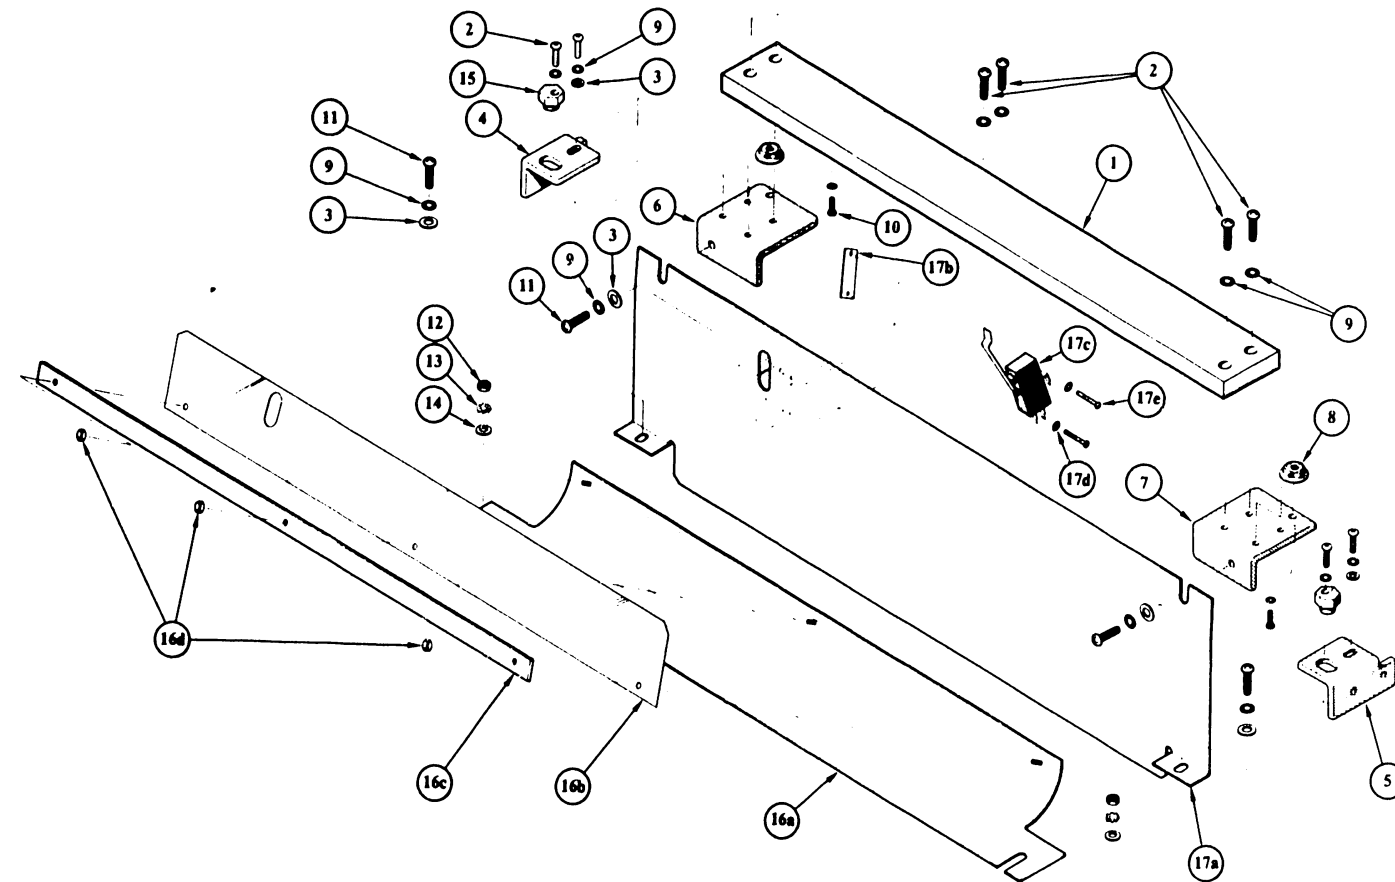

FIGURE 8-8 LOWER PAPER GUIDE ASSEMBLY
8.3.8 LOWER PAPER GUIDE ASSEMBLY PARTS LIST (SEE FIGURE 8-8)